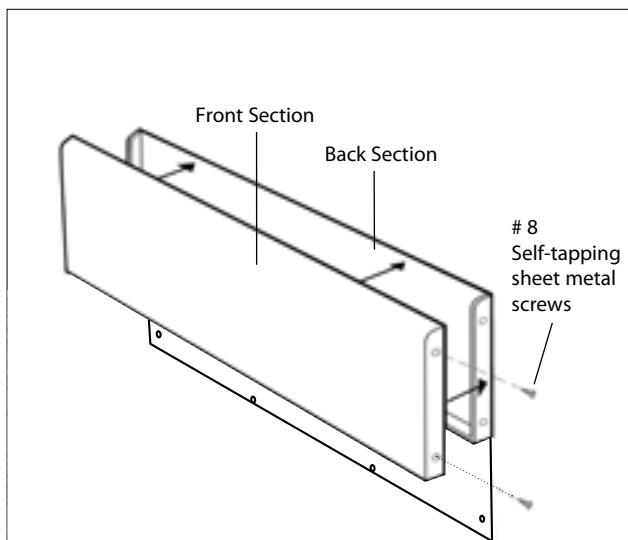

Fig.01
1. Unpack the backguard and screw the front section onto the back section, as shown (Fig. 01)